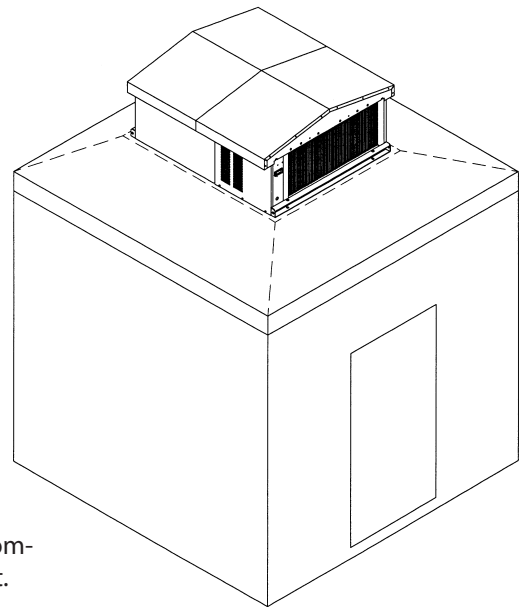

Figure 4. Weather hood installed after electrical service connection.
11. Reinstall the protective weather hood. (See Figure 4, page 7)